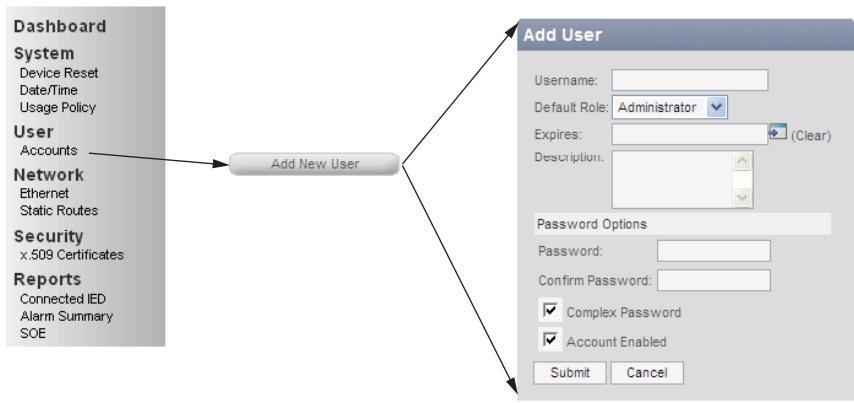

Figure 7.11 RTAC Web Access User Accounts
- Step 3. Click **Add New User**, as shown in *Figure 7.11*.